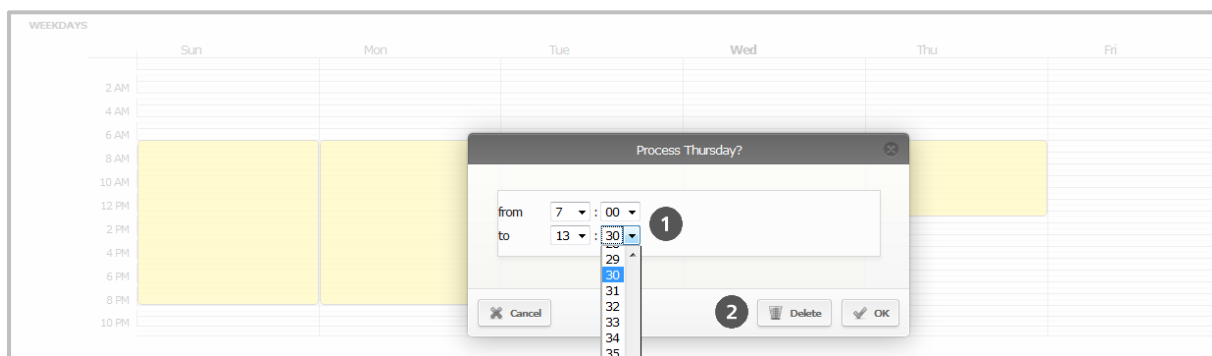

Figure 96: Changing the office mode period
- Click the desired day and select the desired start and end time for office mode on the corresponding day from the drop-down list (**from – to**) ❶ (Figure 96: Changing the office mode period).